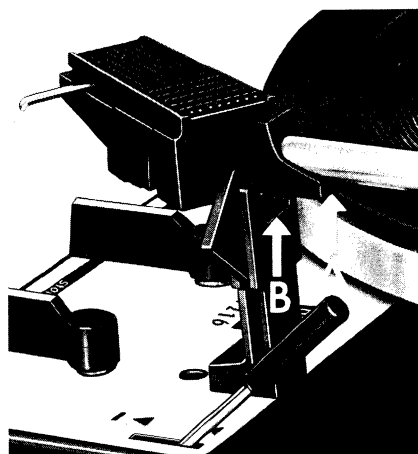

Fig. 15
2. Unlock the tonearm, and lift it off the rest. Move the tonearm just to the inside of the support post and turn the tonearm counterbalance until the tonearm floats in horizontal position. Turning the weight counterclockwise raises the tonearm head, turning it clockwise lowers the tonearm. The tonearm is precisely balanced when edge "A" of the tonearm head and edge "B" of the tonearm rest are at equal height (Fig. 15) or when the tonearm returns by itself to a horizontal position after the chassis is tapped.